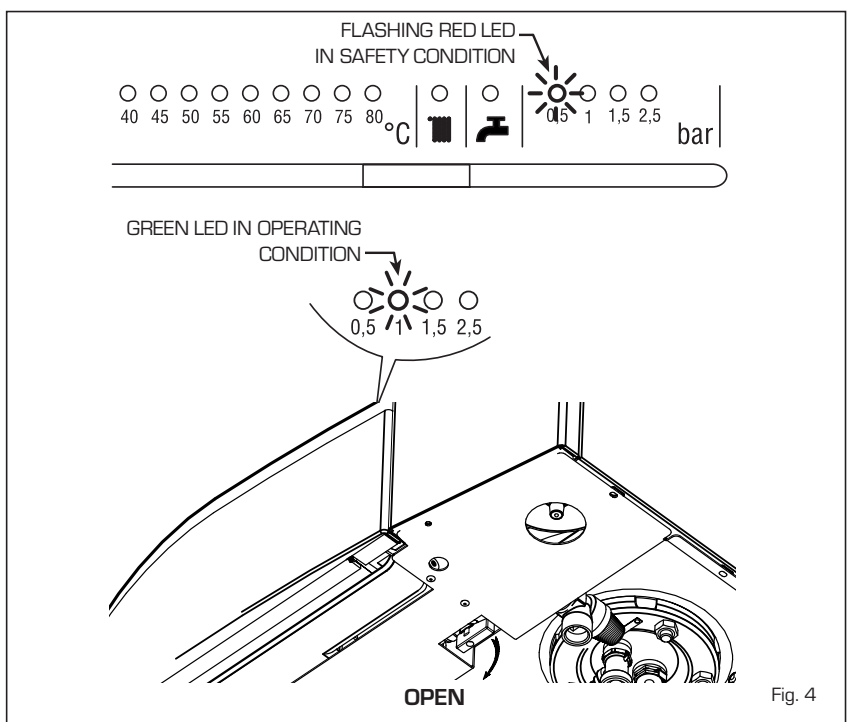

Fig. 4
**- Insufficient water pressure (fig. 4)**